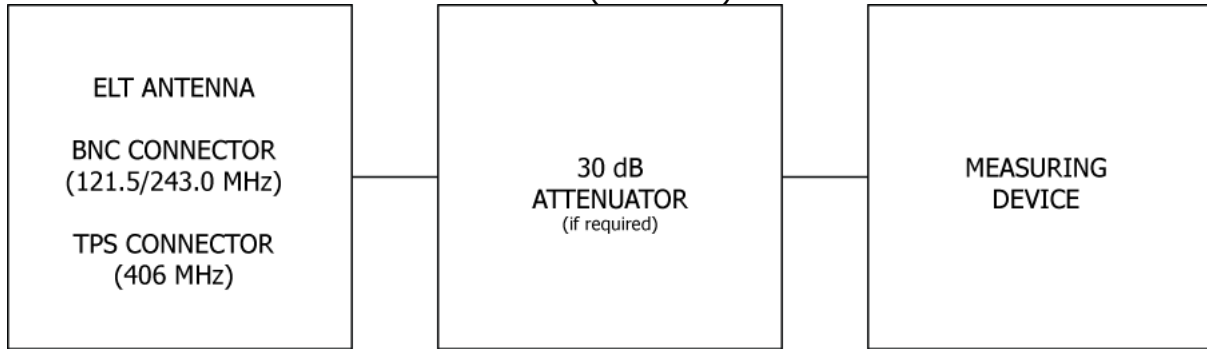

Figure 8 Performance Testing Equipment Setup
- 3) Ensure that adequate attenuation rated for 406 MHz is installed between the ELT antenna output and the measurement equipment to prevent damaging input circuitry, if required. At a minimum, the attenuator should be rated at 30 dB, and 5 watts for a 1/2-second duration as shown in Figure 8 Performance Testing Equipment Setup on page 32.